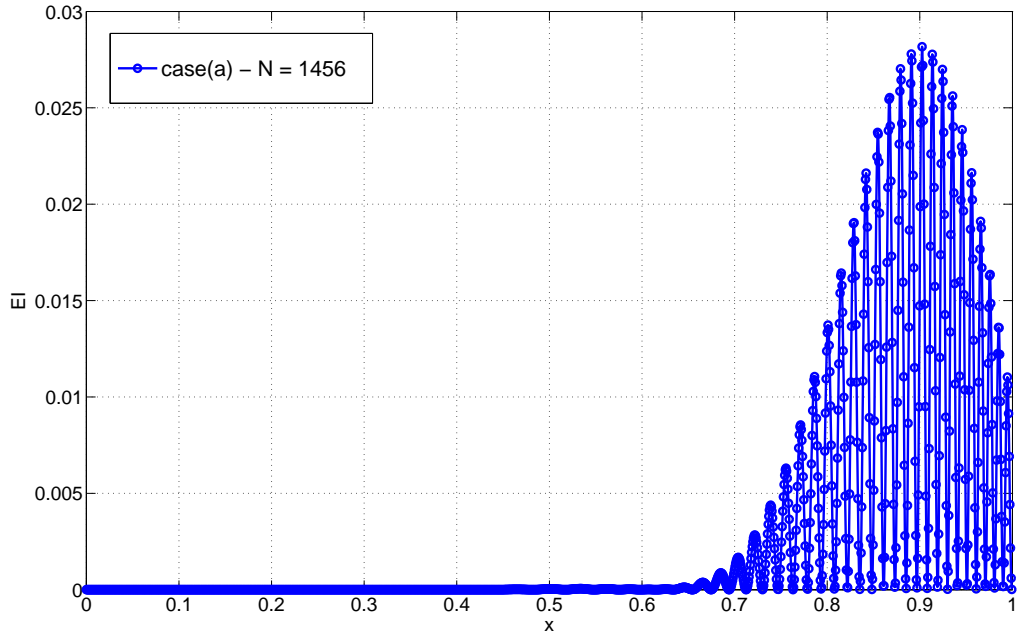

Figure 4:  $E_I$  versus  $X_I$  for **case (a)** for  $N = 1456$  with global error of  $e^N$  of 0.05
We computed the  $E_I$  on each element as suggested in (10) and plotted the results with respect to the left node of each element and the results are shown in figures 4 and 5.